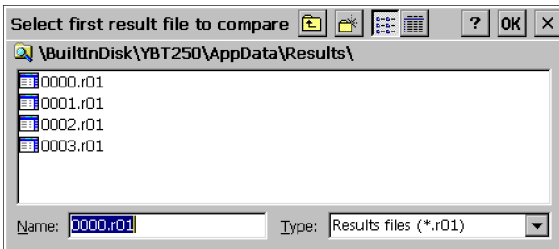

Figure 3-7: Selecting the first result file
1. Select **File > Compare Saved....** The Open dialog appears. See Figure 3-7. For the first result selected, the dialog is labeled **Select first result file to compare**.